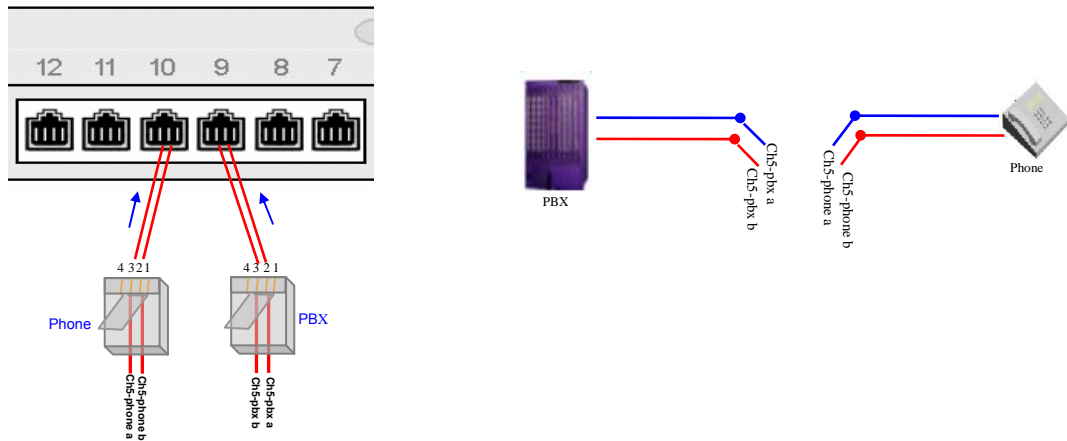

Figure 2-11
2. When using the serial-recording module, cut off the original communication line between the PBX and a phone, connect the two leads from the PBX to an odd-numbered RJ11 jack on the adapter, and the two from the phone to the following adjacent even-numbered RJ11. See Figure 2-11. Note that only the middle 2 pins of each jack can be used for connection in this case.